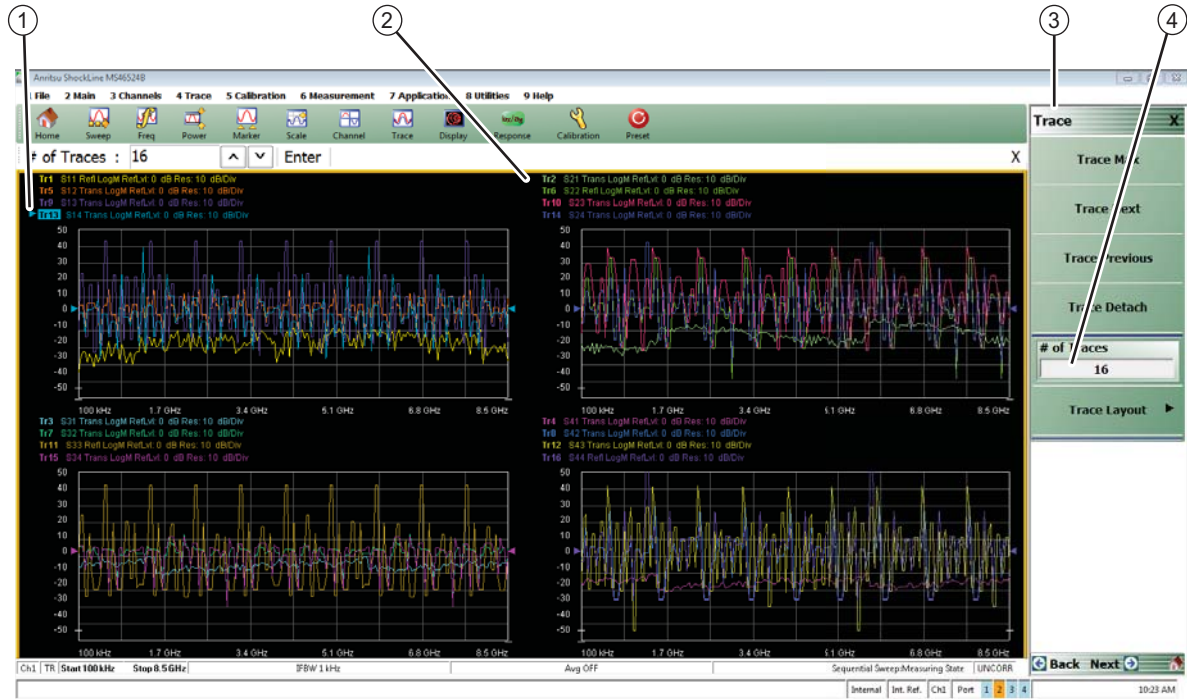

Figure 4-3. User Interface - 16 Traces (simulated data)
All ShockLine™ VNA models support using up to 16 graphical traces. Figure 4-3 below shows an instrument set up with four displayed windows, each with four traces. The displayed trace display layout shown below is user-defined as a 2 × 2 configuration trace display.
2. The selected channel border changes from gray to white. (Figure 4-3, “User Interface - 16 Traces \(simulated data\)” on page 4-3 shows Channel 2 (Ch2) selected.)